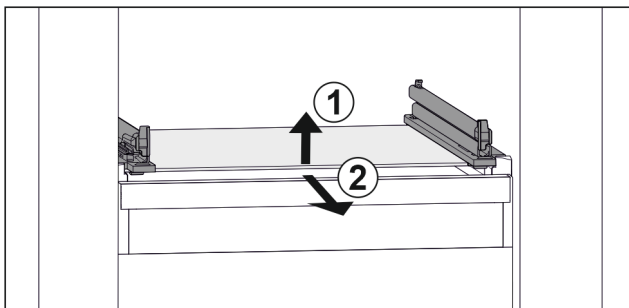

Fig. 137 Example illustration of glass shelf
- ▶ Lift glass shelf at the front. Fig. 137 (1)
- ▶ Take out glass shelf to the front. Fig. 137 (2)